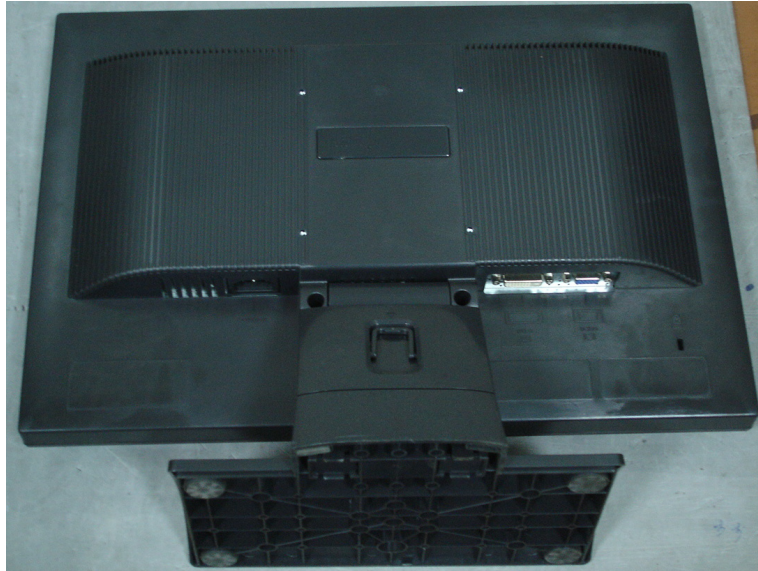

Fig1
1). Back View as Fig1
Place the monitor face down on a smooth surface as Fig 1. Be careful to avoid scratch and injury during the uninstal.